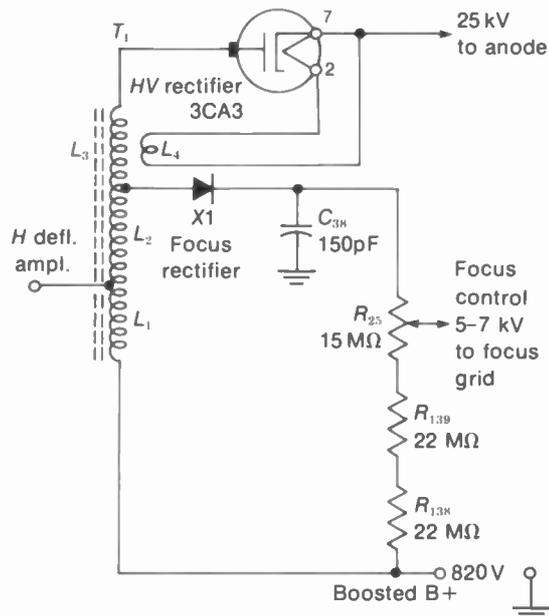
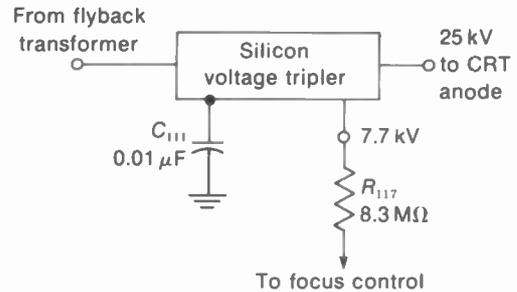

FIGURE 12-35 HIGH-VOLTAGE POWER SUPPLY WITH SEPARATE FOCUS RECTIFIER. (ZENITH COLOR CHASSIS 23XC38)
FIGURE 12-36 SILICON VOLTAGE TRIPLER FOR ANODE VOLTAGE, WITH TAP FOR FOCUS VOLTAGE. (RCA COLOR CHASSIS CTC 58)
**High voltage for focusing.** Color picture tubes with high-voltage electrostatic focusing generally require 5 to 7 kV for the focus grid. This voltage is taken from the horizontal output circuit. Either a separate rectifier can be used as in Fig. 12-35, or a tap on the high-voltage supply can provide the focusing voltage, as in Fig. 12-36. In Fig. 12-35, the silicon diode X1 is the *focus rectifier*. Tubes also used for this function are the 1V2 and 1X2. These high-voltage rectifiers do not have a top cap for the anode and are smaller than the 1K3.
In Fig. 12-36 the high-voltage rectifier is a solid-state tripler circuit with the silicon diodes, capacitors, and resistors all in one unit. A tap at the output of the first rectifier supplies 7.7 kV to the focus control circuit.